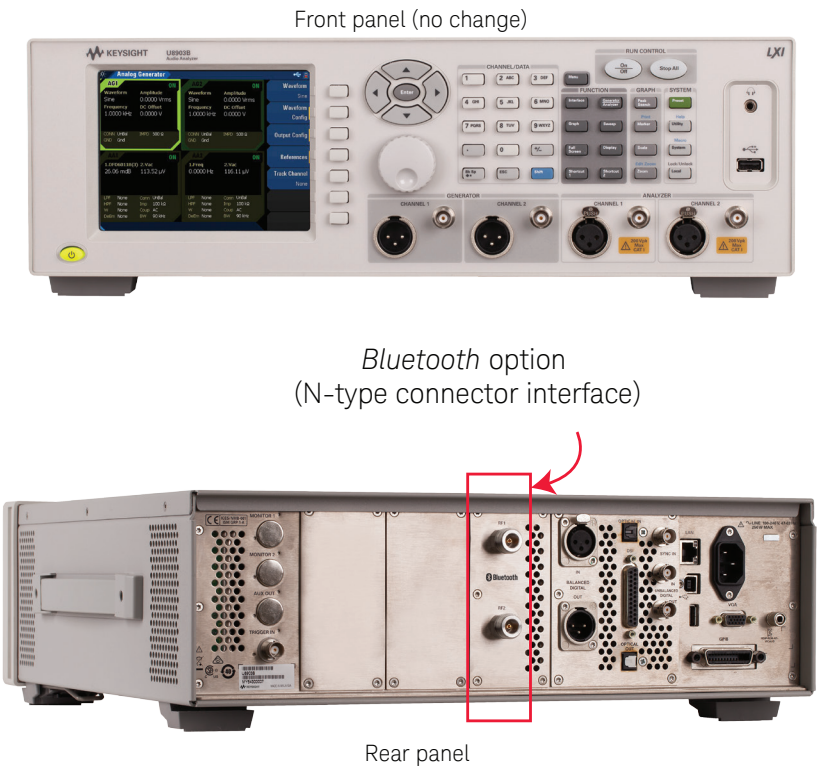

Figure 2. U8903B Bluetooth Option
The *Bluetooth* (card) option for U8903B performance audio analyzer is shown in Figure 2. It consists of two N-type female connectors which can be connected to two *Bluetooth* audio device-under-tests (DUTs). The objective of this *Bluetooth* option is to establish a *Bluetooth* link between the U8903B and the DUT either via over-the-air (OTA) or physical cable connection. Once the connection has been made, the U8903B is ready to perform *Bluetooth* audio analysis measurements such as AC level, frequency measurement, distortion (THD), THD+N and so on. The U8903B *Bluetooth* option comes with *Bluetooth* generator (BG) and *Bluetooth* analyzer (BA). The *Bluetooth* option does not perform the RF signals analysis and the *Bluetooth* protocols analysis. Hence, if there is a failure in establishing the *Bluetooth* link, the U8903B will not be able to perform the audio analysis of the DUT.